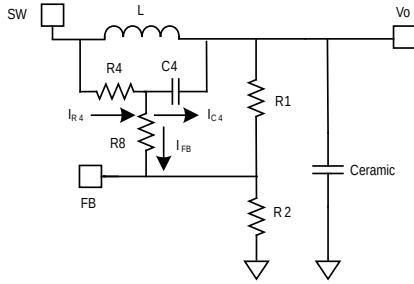

Figure 7: Simplified Circuit in PWM Mode with External Ramp Compensation
Figure 7 shows a simplified external ramp compensation (R4 and C4) for PWM mode. Choose R1, R2, R8, and C4 of the external ramp to meet the condition shown in Equation (3) and Equation (4):